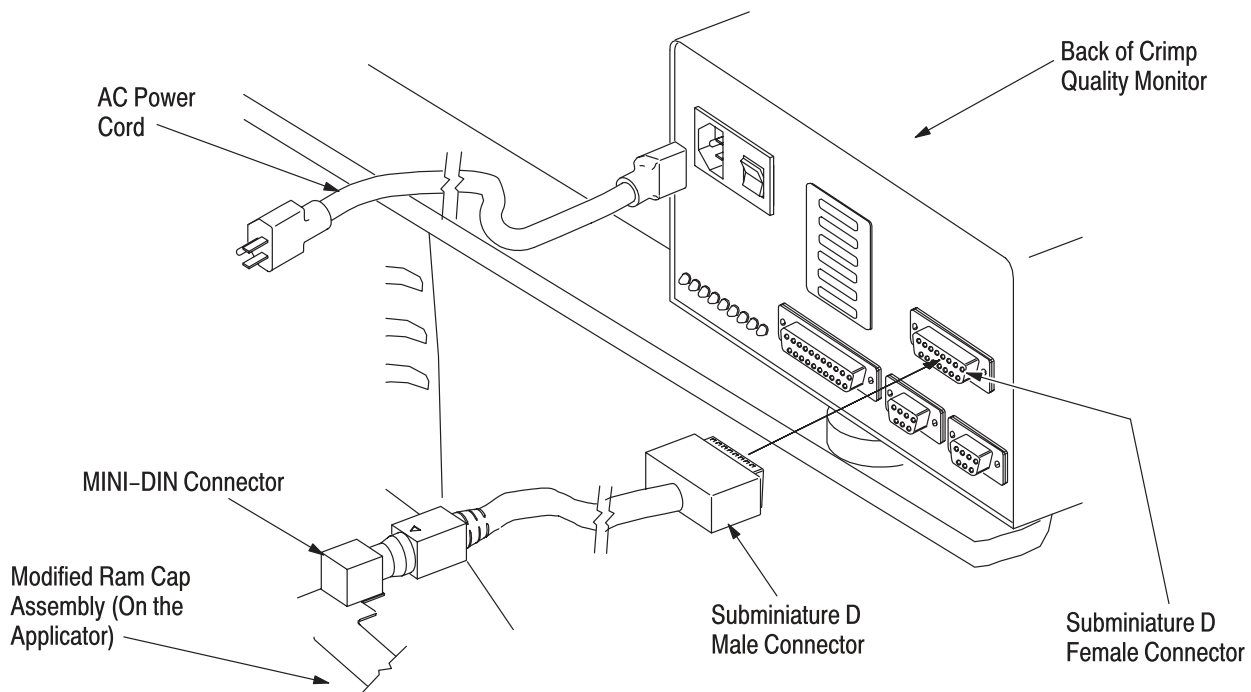

Figure 3
2. Mate the subminiature D male connector on the end of the cable to the appropriate female connector located on the back panel of the Crimp Quality Monitor. See Figure 3.